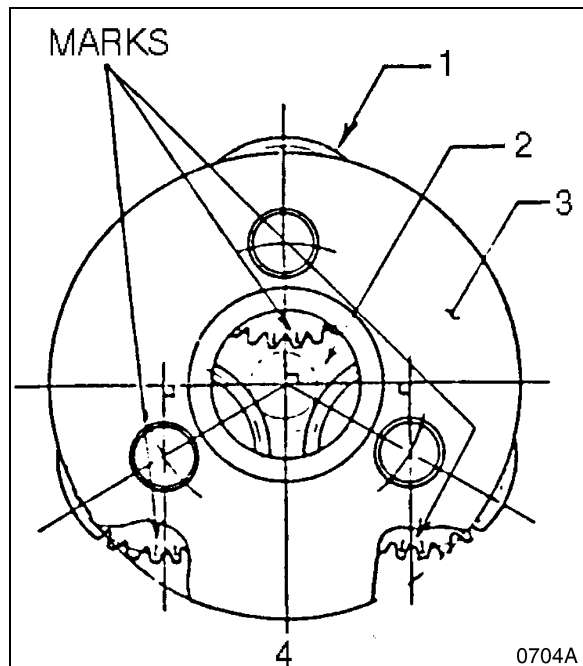

Figure 91
6. Assemble the full gear set, including the sun gear, with timing marks lined up as shown in Figure 91.